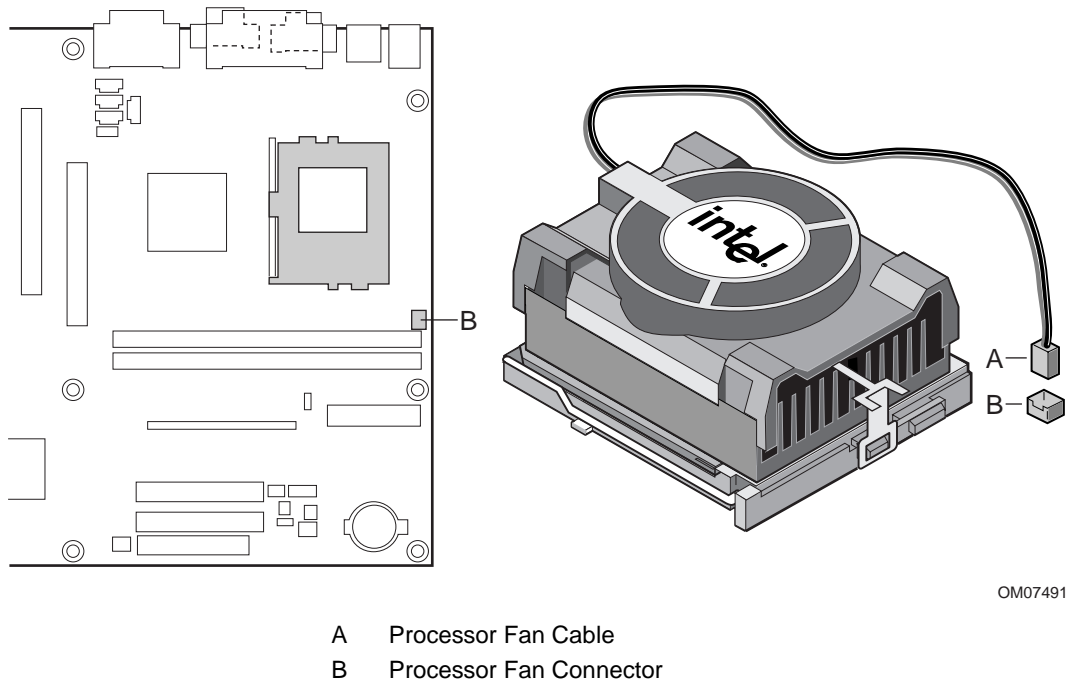

Figure 8. Connecting the Processor Fan Cable to the Processor Fan Connector
7. Connect the processor fan cable to the processor fan connector (see Figure 8).